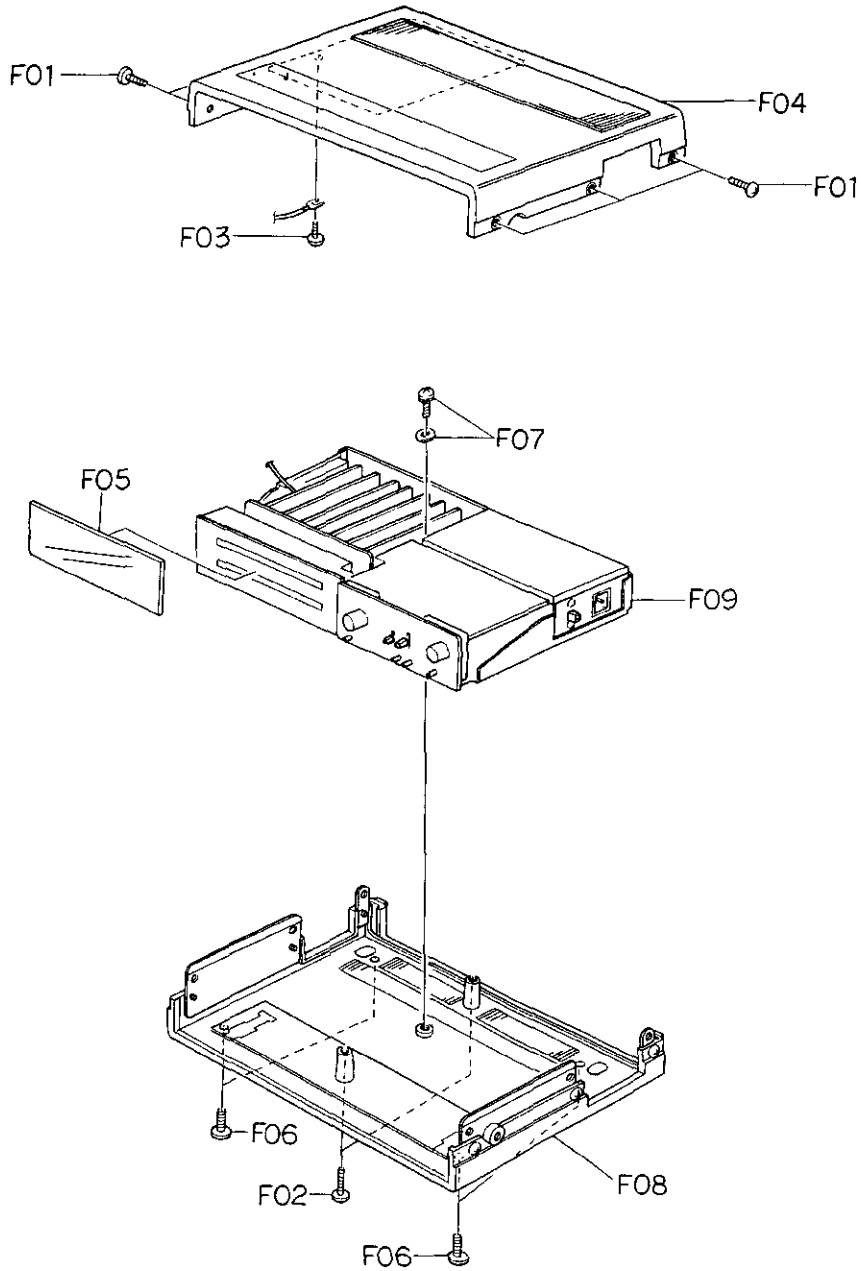

Fig. 2.1
Refer to Fig. 2.1.
- (1) Refer to Fig. 2.1. Remove Top Cover Ass'y and Bottom Cover Ass'y referring to item 2.1.
- (2) Remove F01, then disassemble F02 (Power Supply Box Cover).
- (3) Remove F03, F04 and F05, then disassemble F06 (Power Supply Ass'y).
- (2) Remove F05 and F07, then disassemble F08 (Rear Panel B Ass'y).
- (3) Remove F09, then disassemble F10 (Connector P.C.B. Ass'y).
- (2) Remove F11, then disassemble F12 (Switch Control Ass'y).
- (3) Remove F13, then disassemble F14 (Bar-graph Holder Ass'y).